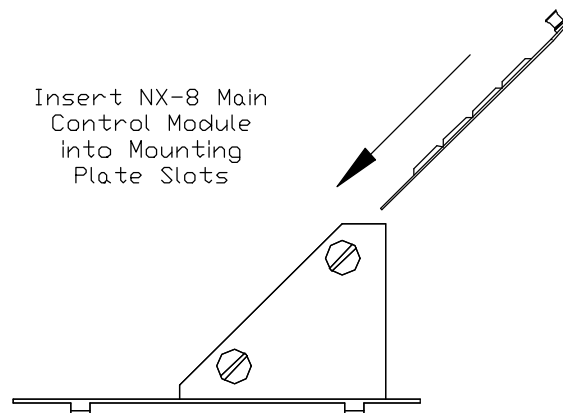

Figure 2
- 1) Slide NX-8 Main Control Module into mounting plate slots. See Figure 2.